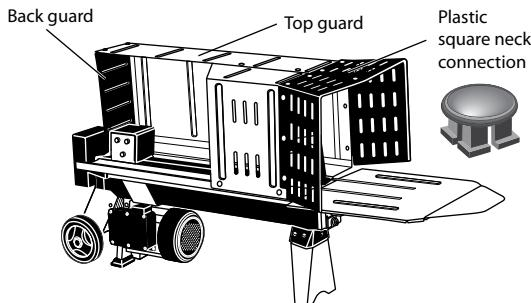

Fig. 4
6. Ensure that the holes of the left guard & right guard are aligned with the holes of home mouth guard, use 12 pcs. plastic square neck connections to connect the right & left guard and home mouth guard together. Then use plastic square neck connections to connect the right guard and back guard together (Fig.4).